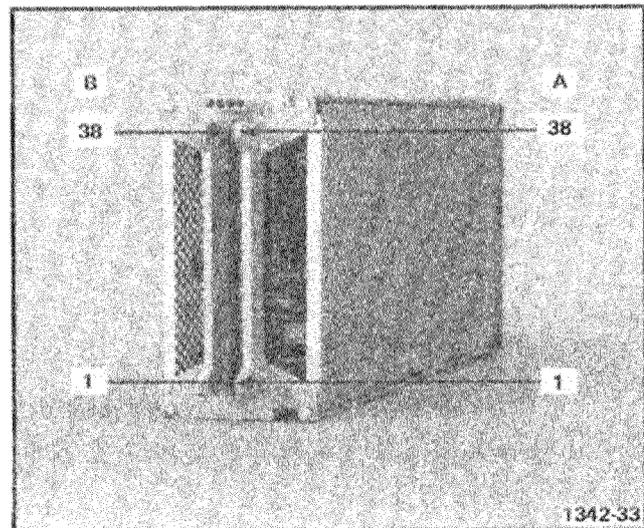

Fig. 5-1. Location of pins on Interface connector.
**Interface Connector Pin Locations.** The Interface circuit board couples the 7B53A/7B53AN to the associated oscilloscope. Fig. 5-1 illustrates the locations of pins on the interface connector as shown on the Voltage distribution and Output Connectors schematic in the diagrams section.